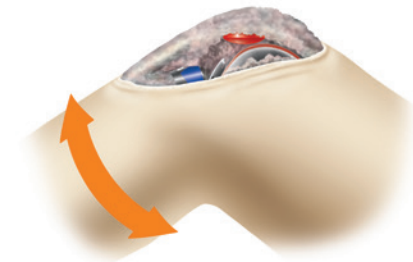

Figure 26
- 2 Perform a trial range of motion to assess patellar tracking. With cruciate-retaining knees, medial/lateral placement of the femoral trial can be adjusted to optimize patellar tracking (Figure 26).